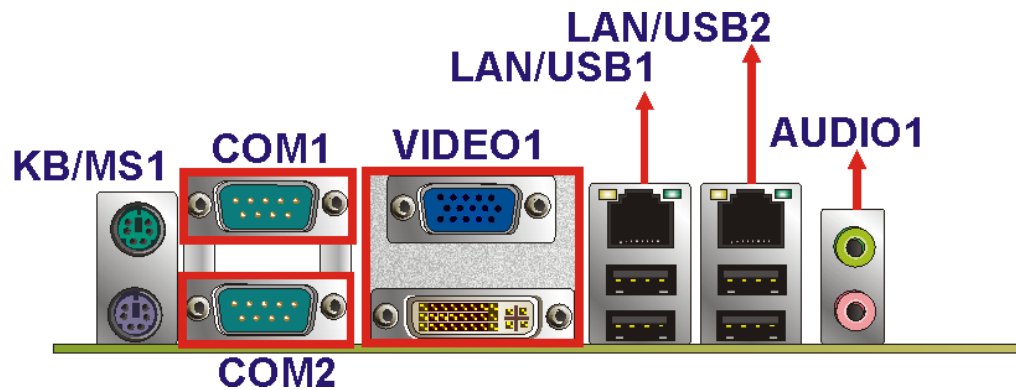

Figure 4-16: KINO-690S1 External Peripheral Interface Connector
Figure 4-16 shows the KINO-690S1 external peripheral interface connector (EPIC) panel.
CN Location: See Figure 4-16
A 24-pin Digital Visual Interface (DVI) connector and a female DB-15 VGA connector are integrated into a single EPIC connector as shown in **Figure 4-16**.
- CN Location: See Figure 4-16
- CN Location:** See Figure 4-16 (see 2)